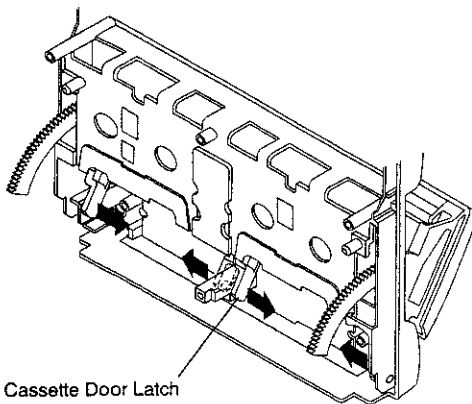

Fig. 12
(1) Remove the 2 eject springs.
(2) Remove 2 screws ㉔ and then remove the eject bracket.
12. **Removal of Cassette Door (Fig. 12)**